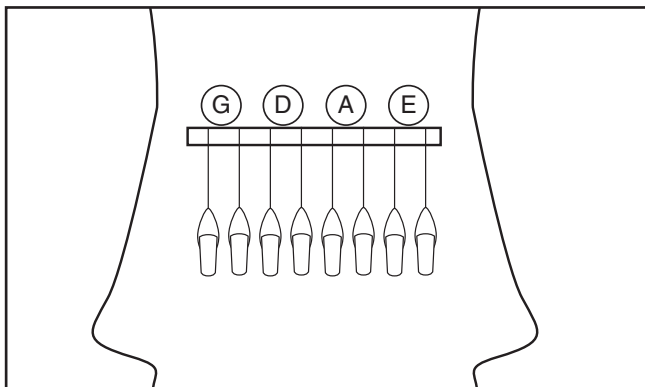

Figure 29. String placement.
1. Bend the looped end of the strings and place them over the hooks on the tailpiece as shown in **Figure 29**. Work from the thinnest string (E string-treble) to the thickest (G string-bass).